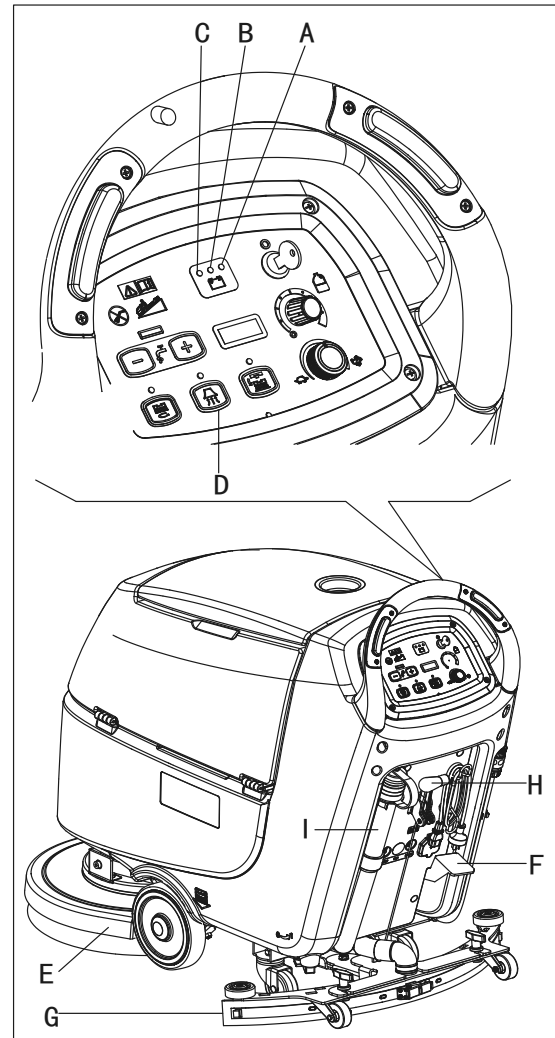
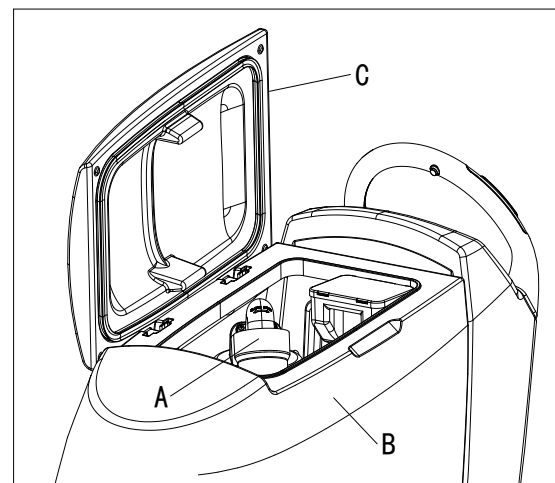

Figure 12
Figure 13
Until the green warning light (A, Figure. 12) stays on, the batteries allow the machine to work normally. When the green warning light (A) turns off, and the yellow warning light (B) turns on, it is advisable to charge the batteries, because the remaining charge will last for a few minutes (depending on battery characteristics and work to be performed). When the red warning light (C) turns on, batteries are fully discharged. After a few seconds, the brush/pad-holder is automatically tuned off, while (only for machine with traction) the drive system stay on, to finish drying the floor and drive the machine to the appointed recharging area.
An automatic float shut-off system (A, Figure. 13) blocks the vacuum system when the recovery water tank (B) is full. The vacuum system deactivation is signaled by a sudden increase in the vacuum system motor noise frequency, also the floor has not dried.
If the vacuum system turns off accidentally (for example, when the float is activated because of a sudden machine movement), to resume the operation: turn off the vacuum system by pressing the switch (D, Figure. 12), then open the cover (C, Figure. 13) and check that the float inside the grid (A) has gone down to the water level. Then close the cover (C) and turn on the vacuum system by pressing the switch (D, Figure. 12).
When the recovery water tank (B, Figure. 13) is full, empty it according to the following procedure.
2. Lift the brush/pad-holder deck (E, Figure.12) by pressing the pedal (F). (only for disc machine)
3. Lift the squeegee (G) with the lever (H).
5. Empty the recovery water tank with the hose (I). Then, rinse the tank (B, Figure. 13) with clean water.